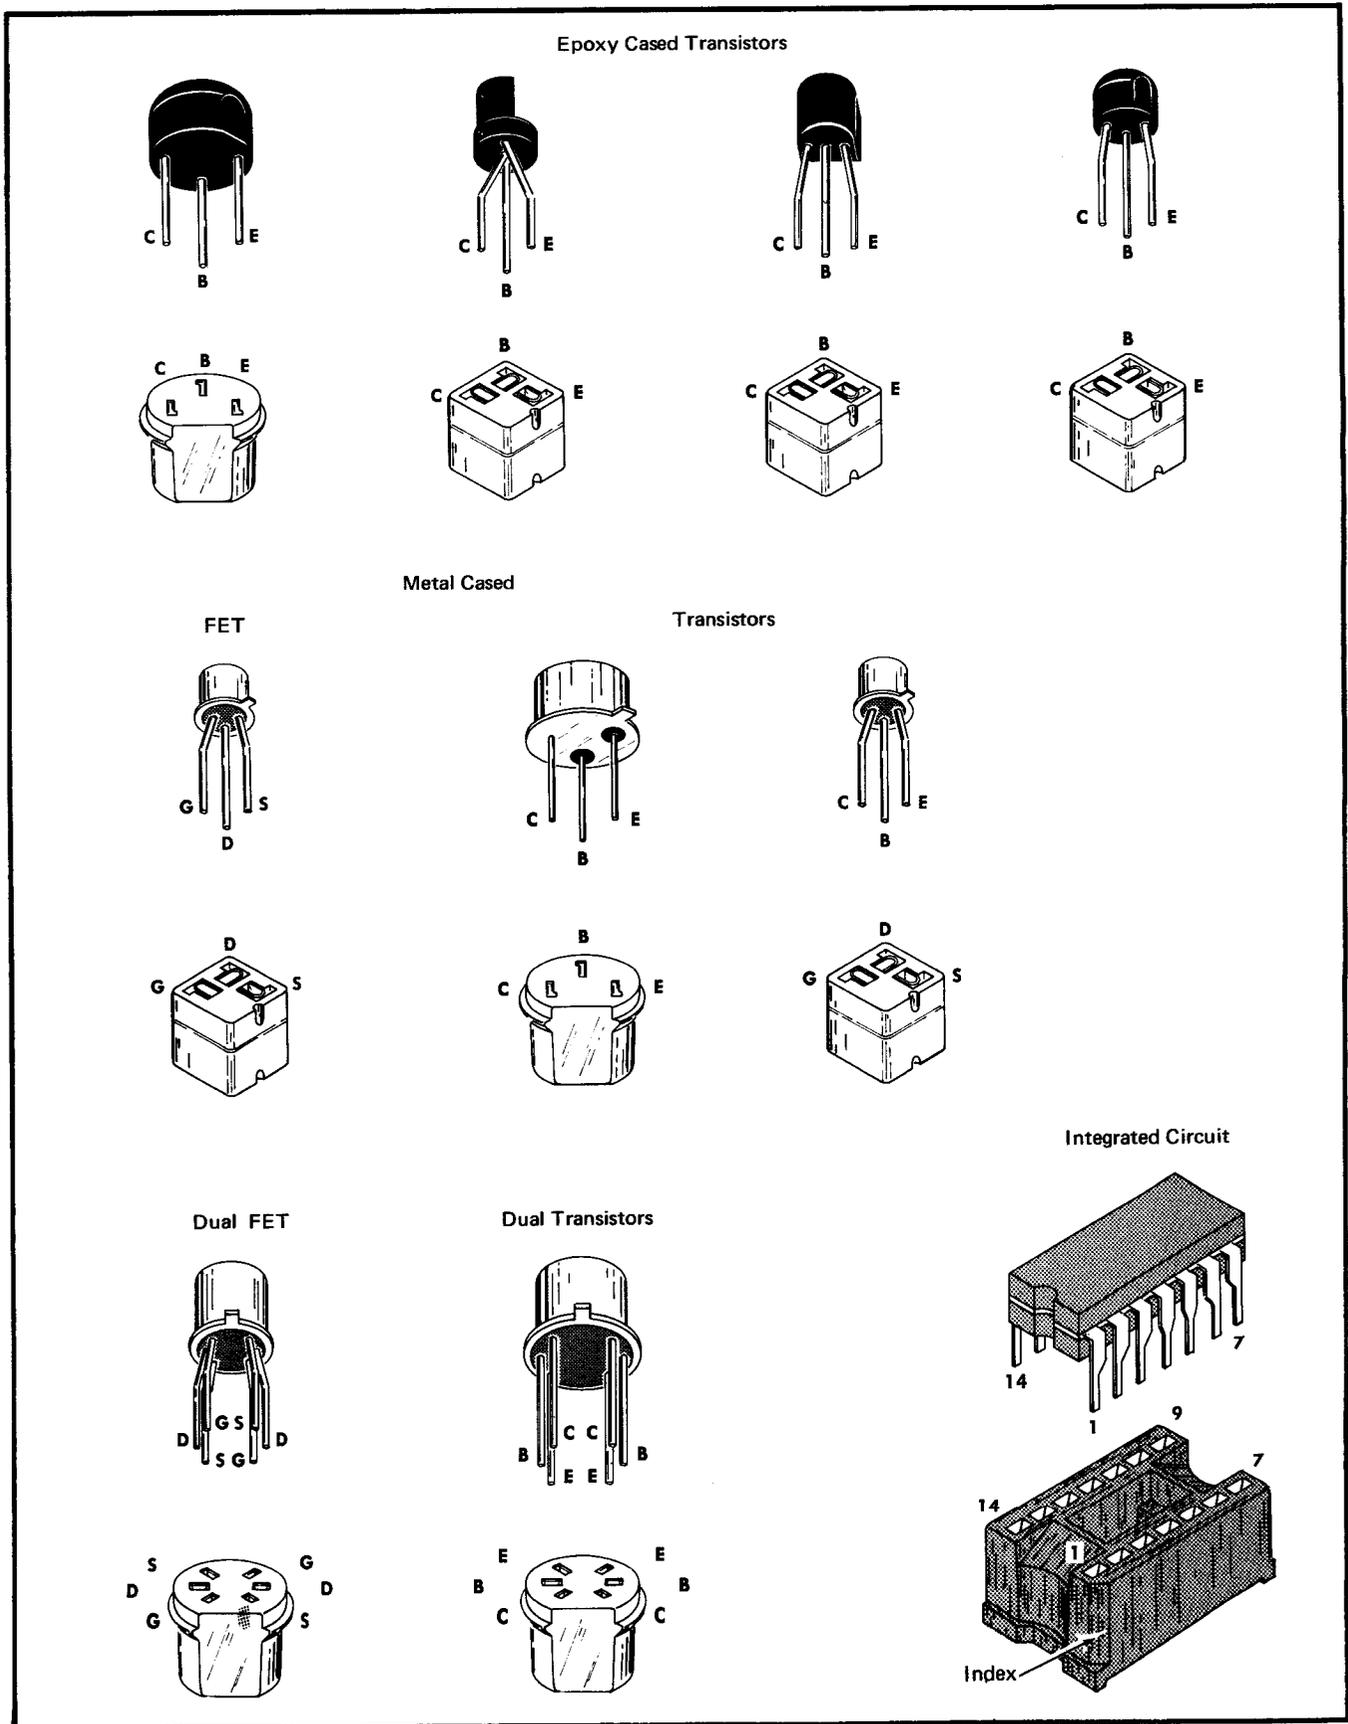

Fig. 4-2. Electrode configurations for socket-mounted semiconductor devices.
Fig. 4-2 shows the lead configurations of the transistors and integrated circuits used in this instrument. This view is as seen from the bottom of the device.
**7. Check Semiconductors.** Most circuit failures result from the failure of a transistor, FET, diode, or integrated circuit due to normal aging and use. The following explains various methods of checking semiconductor devices. Insertion information is provided in Fig. 4-2.